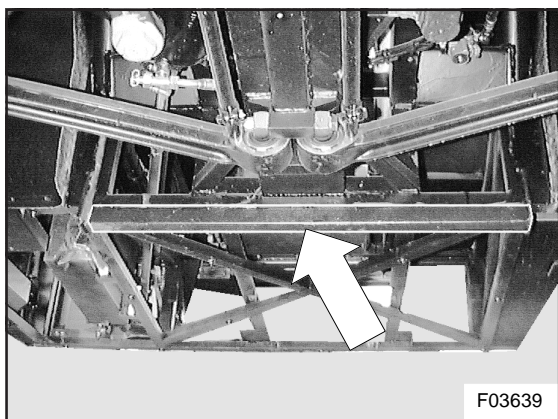

Figure 3: Front towing brace
- Front towing brace (see Figure 3).